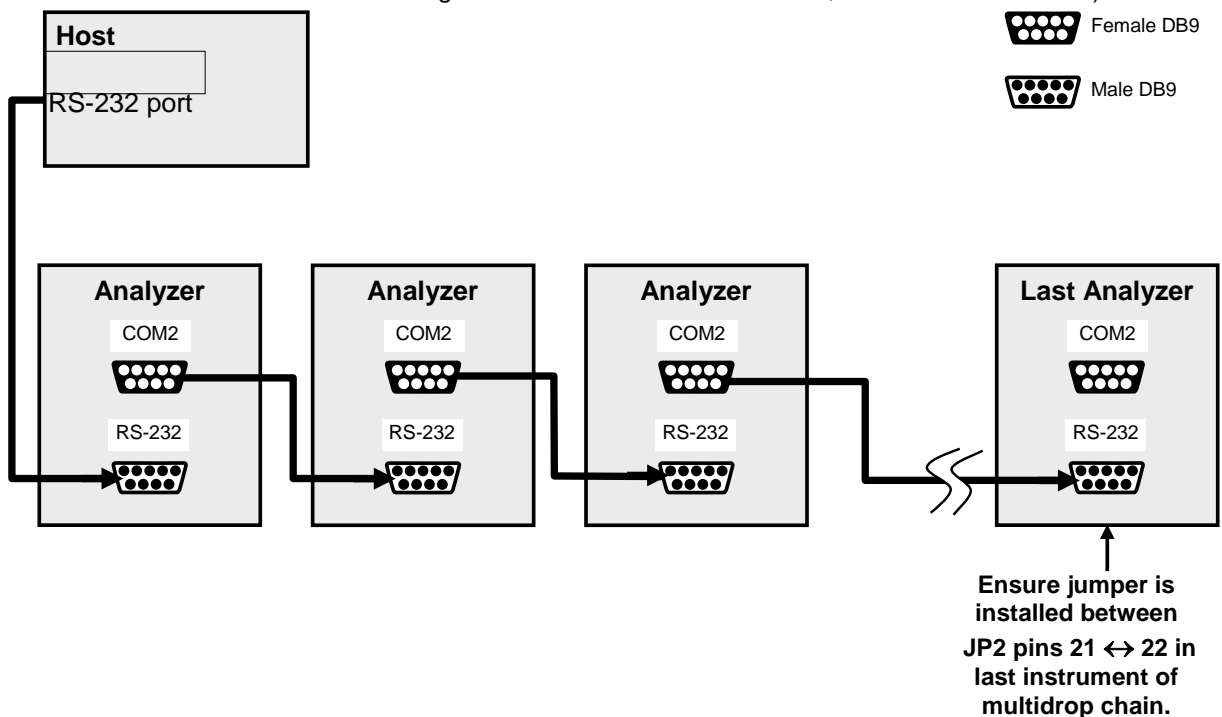

Figure 3-14: RS-232-Multidrop PCA Host/Analyzer Interconnect Diagram
5. Referring to Figure 3-14 use straight-through DB9 male > DB9 female cables to interconnect the host RS232 port to the first analyzer's RS232 port; then from the first analyzer's COM2 port to the second analyzer's RS232 port; from the second analyzer's COM2 port to the third analyzer's RS232 port, etc., connecting in this fashion up to eight analyzers, subject to the distance limitations of the RS-232 standard.